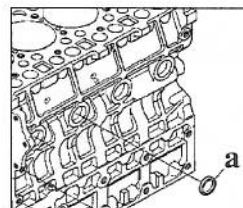

Figure 2.
2. Remove the freeze plug from the engine block (Figure 2). Choose the freeze plug that is accessible and closest to the center of the engine.
- Standard location is on the **left** hand side of the engine block closest to the center of the engine block (Figure 2).